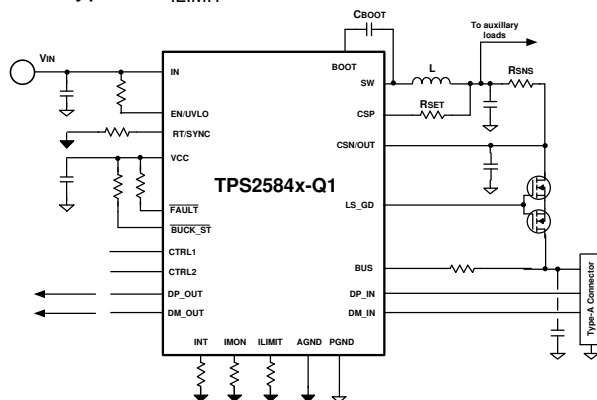

图 43. Current Limit with External MOSFET
- With external MOSFET 图 43:
The TPS2584x-Q1 has integrated NFET gate drivers, and can support current limit with external NFET. Refer to 图 43.